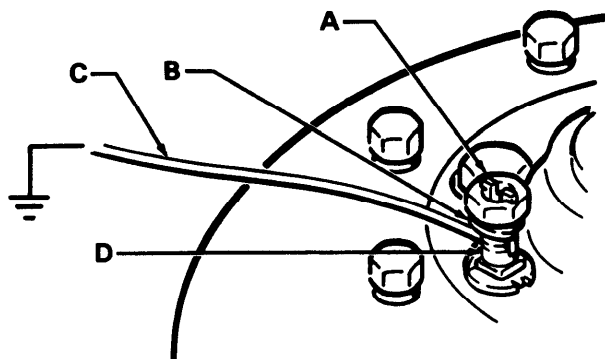

Fig 1
1. *Pump*: use a ground wire and clamp as shown in Fig 1.
To ground the pump, loosen the grounding lug locknut (A) and washer (B). Insert one end of a 12 ga (1.5 mm²) minimum ground wire (C) into the slot in lug (D) and tighten locknut securely. See Fig 1. Connect the other end of the wire to a true earth ground. Refer to page 8 to order a ground wire and clamp.